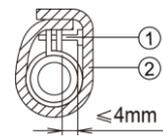
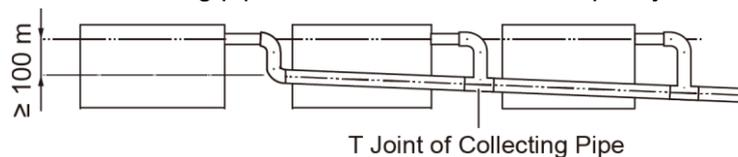

Fig 4.3.3
Fig 4.3.4
- (3) Use sealing plate to make the pipe clamp and hose insulated, as shown in Fig.4.3.3.
- ① metal clamp(accessory)
- ② thermal sponge(accessory)
- (4) When connecting several drain pipes, follow the instruction as indicated in Fig 4.3.4.